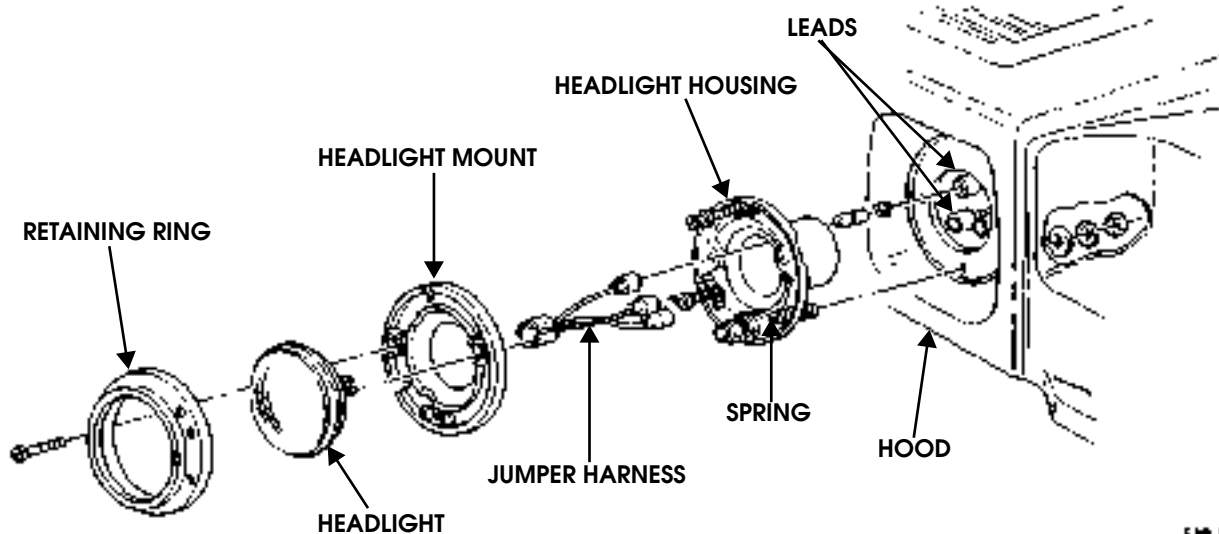

Figure 10-153: Headlight Assembly Replacement
1. Loosen three screws and remove retaining ring from headlight mount (Figure 10-153).
1. Connect three leads to back of housing (Figure 10-153).